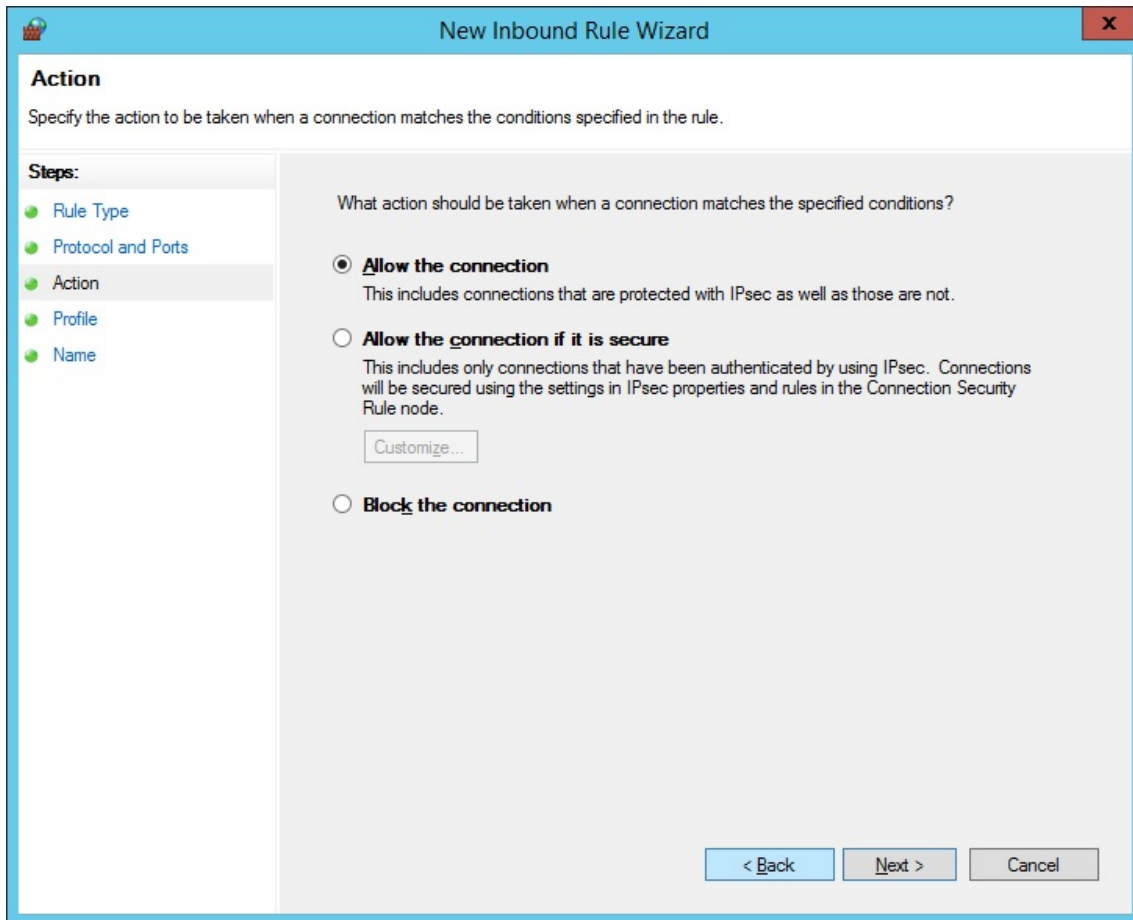

Figure 2-83. Program Path for the Exception
10. The path for the item you just selected shows in the **This program path** field on the Program page of the New Inbound Rule Wizard (Figure 2-83). Click **Next**.
11. On the Action page of the New Inbound Rule Wizard, click **Allow the Connection**. Then click **Next**. This is the same as Figure 2-83.